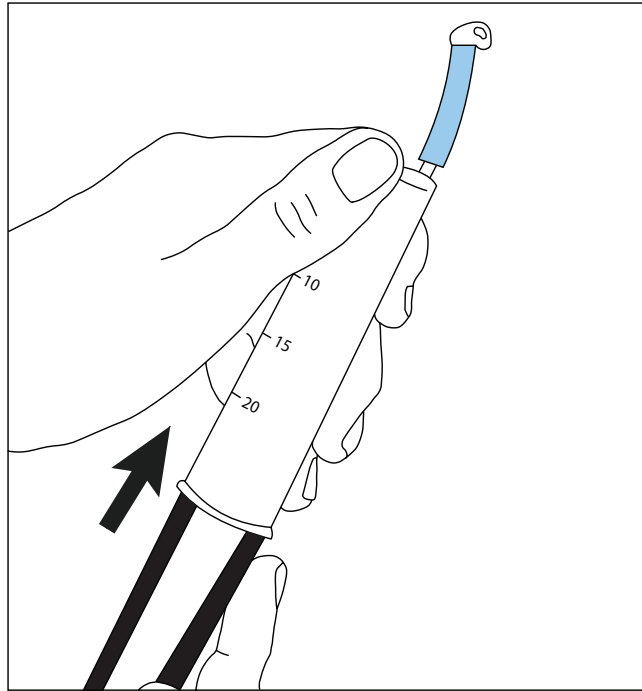

Figure 14 Tube piece on vacuum syringe
6. Push the tube piece onto the vacuum syringe and push the syringe to fill the tube (Figure 14).